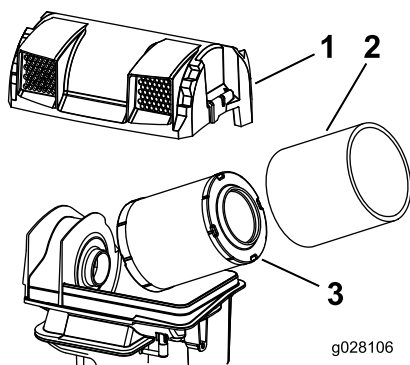

Figure 45
6. Release the latches on the air cleaner and pull the air-cleaner cover off the air-cleaner body (Figure 45).
8. Gently slide the primary filter out of the air-cleaner body (Figure 45).
- 2. If you are replacing the inner filter, carefully slide it into the filter body (Figure 45).
- 3. Carefully slide the primary filter over the safety filter (Figure 45).
- 4. Install the air-cleaner cover and secure the latches (Figure 45).